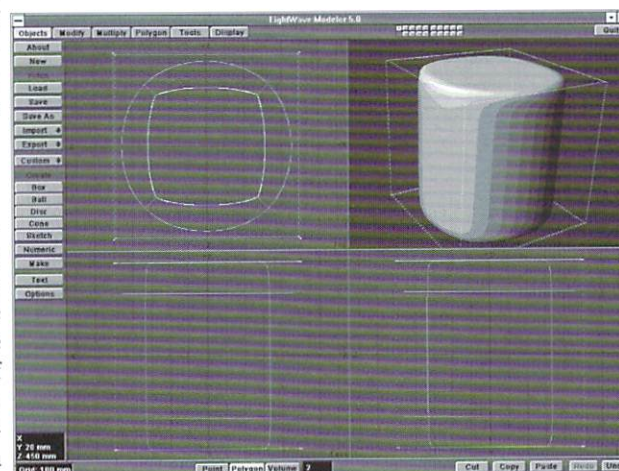

Figure 2: The bottom and top polygons are Beveled with an Inset sharpening out the rounded edges.
5. With the bottom polygon selected, press b to call up the Bevel tools. Enter an Inset value of 10 mm and leave all other values set to 0. Click OK, and you'll see that you now have a not so ball-like, but rather, the beginning of a mug, as in Figure 2.